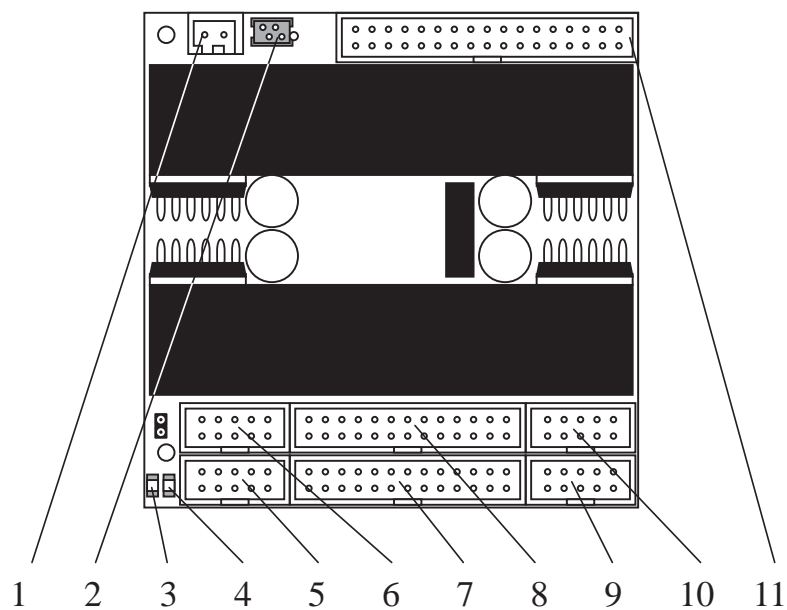
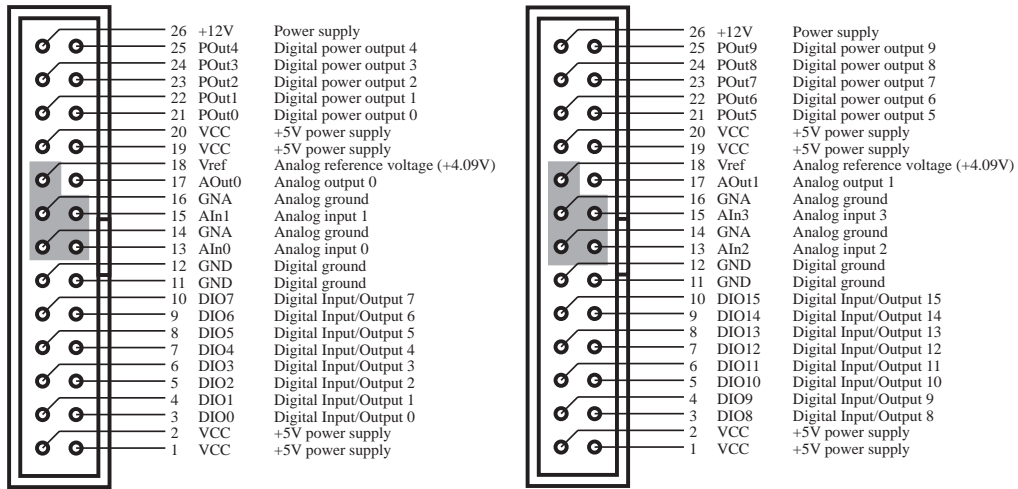
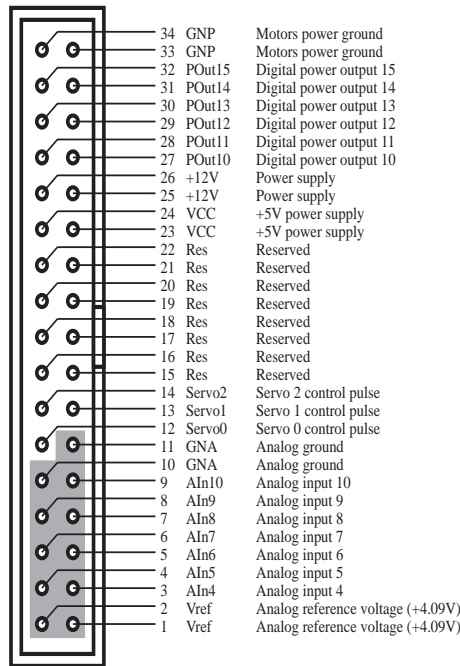
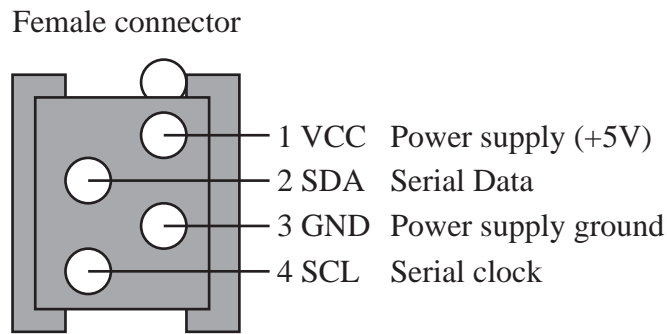

Figure 1: Position of some parts of the board.
Figure 7: Analog groups on I/O connectors 0 and 1.
Figure 8: Analog group on miscellaneous I/O connector.
Figure 15: I2C connector pinning.
The REB accepts a motor DC power supply having a voltage between 12V and 24V. This voltage has to be applied on the power supply connector between SupplyMOT+ and SupplyMOT- on the connector 1 of figure 1.
4 DC motors can be independently controlled. The motors have to be connected to the corresponding connectors, illustrated by items 5, 6, 9 and 10 of figure 1. Each connector correspond to a motor number and include motor power supply and encoder connections.
Analog inputs are present on all connectors. Two analog inputs are present on each of the two I/O connector (items 7 and 8 of figure 1), placed as indicated in figure 7.
All other analog inputs are placed on the miscellaneous I/O connector (item 11 of figure 1), placed as indicated in figure 8.
One analog output is present on each of the two I/O connector (items 7 and 8 of figure 1).
The REB includes a connection I2C (item 2 of figure 1). The I2C is a bus for inter-connection of chips defined by Philips and used as a standard by many manufacturer. The implementation on the REB follows the standards and is compatible with most standard devices. The connector is a custom one and does not follows a particular format. The pinning is given in figure 15.